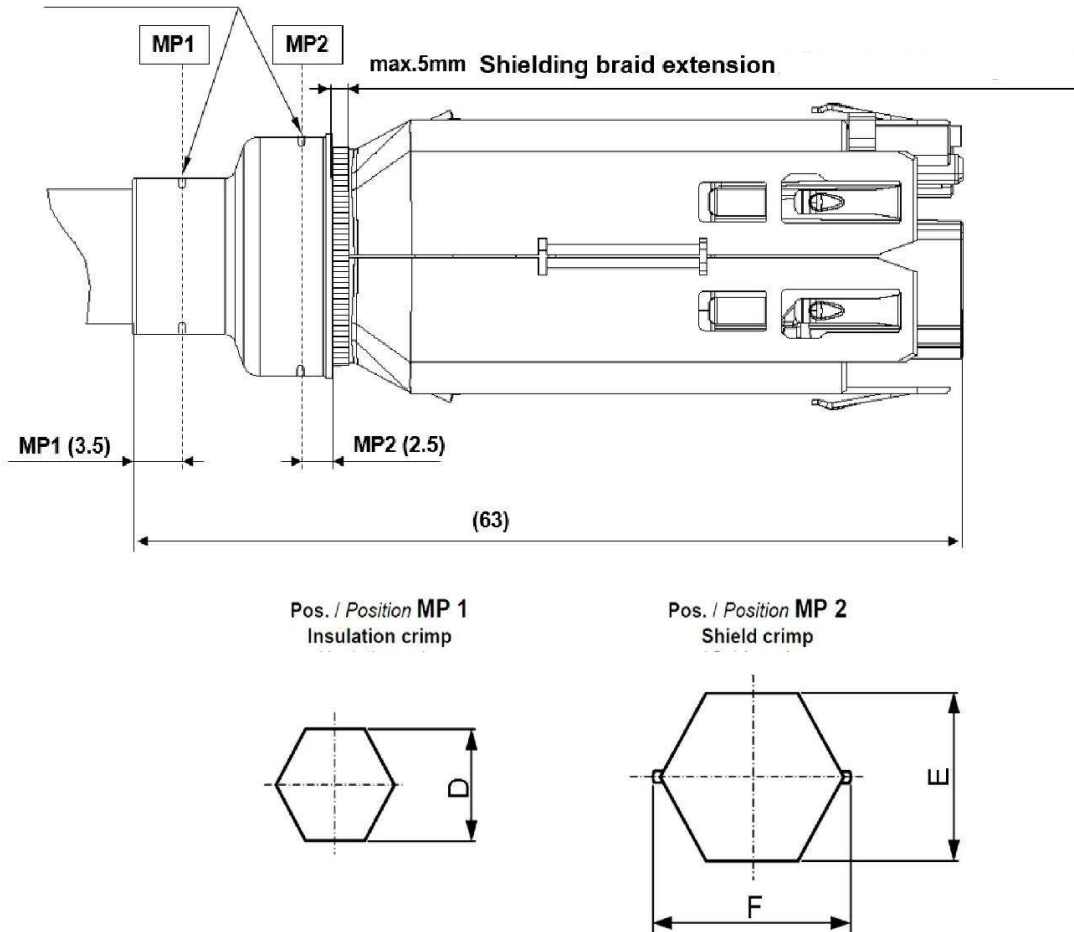

Figure 12
**Ensure that all parts are in the correct position (Figure 12). Ensure that the shield braids are homogeneous spread over the circumference of the crimp ferrule. Insert the Assembly into the Die Set with locator and crimp it. For correct handling and using of application tools see guideline 411-18555.**
**After crimping the shield braid has to be visible for visual inspection of homogeneous distribution of the braids and may extend according Figure 12. CAUTION: Post crimp cutting of the braids is not permitted !**